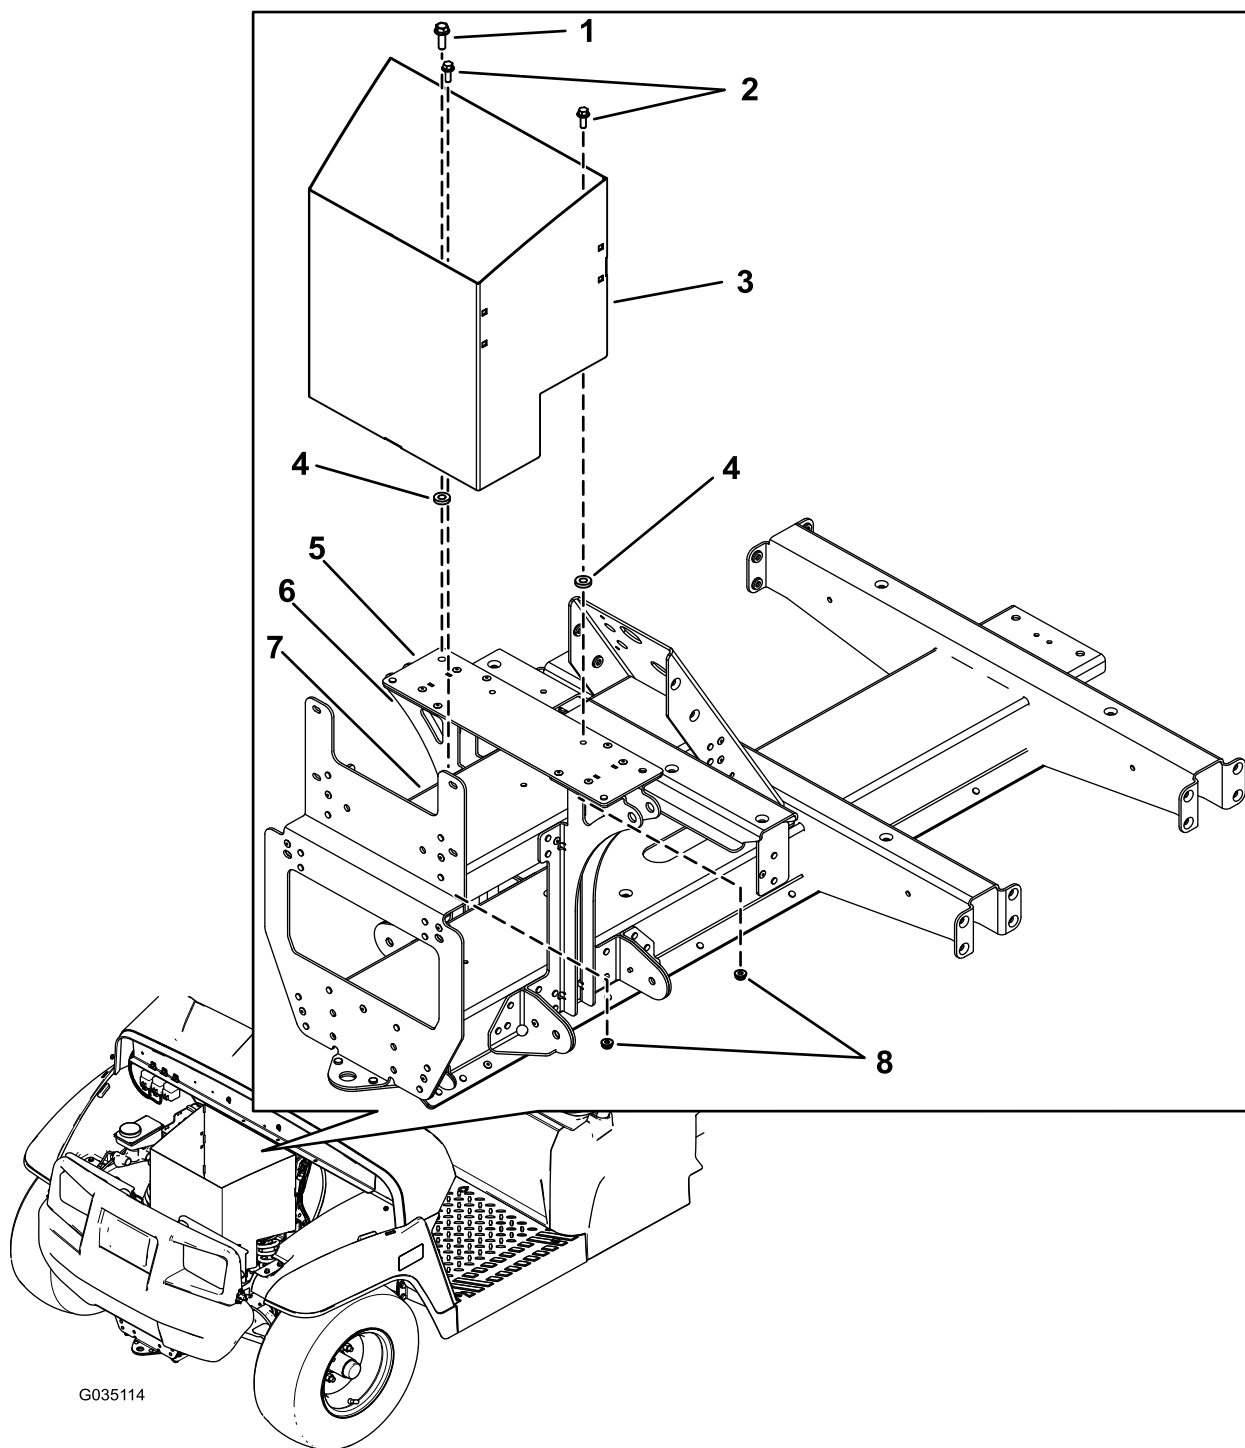

Figure 1
1. Remove the existing bolt from the right side of the support plate (Figure 1).
2. Align the 2 spacers with the holes on the support plate (Figure 1).
3. Gently lower the storage box onto the spacers and support plate (Figure 1).
4. Install the hex-head screw (5/16 x 1 inch) through the storage box, support plate, and the right, front shock-mount bracket (Figure 1).
5. Install a hex-head screw (1/4 x 3/4 inch) and a flange nut (1/4 inch) through the storage box and support plate (Figure 1).
6. Install a hex-head screw (1/4 x 3/4 inch) and a flange nut (1/4 inch) through the storage box and shock-support bracket (Figure 1).